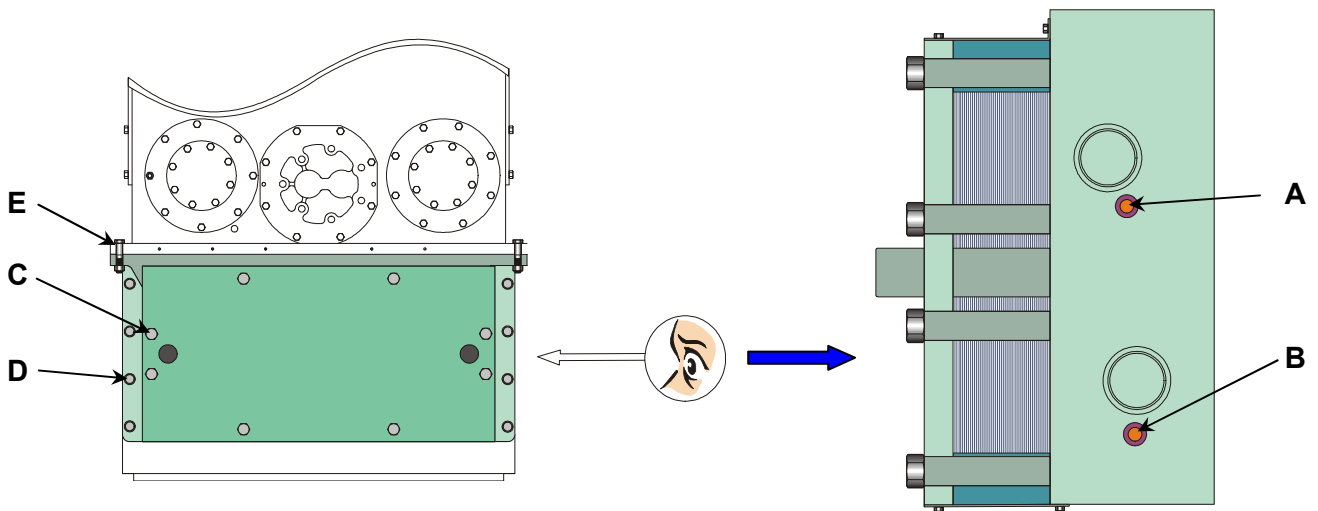

Fig.1 Dismounting of lubricating oil cooler (윤활유 냉각기의 분해)
- Drain the lubricating oil by loosening the drain plug (B) on oil cooler housing as shown in fig 1
- Drain the low temperature cooling water by loosening the drain plug (A) on oil cooler housing.